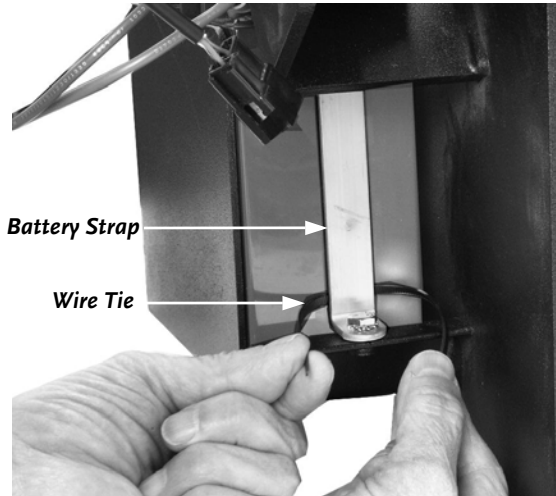

Figure 9a
16. Re-connect the Negative Battery Terminal Wire and tighten securely. Secure the wires to the Battery Strap (**Figures 9a & 9b** on page 15) using the Wire Tie included in the Parts Package.